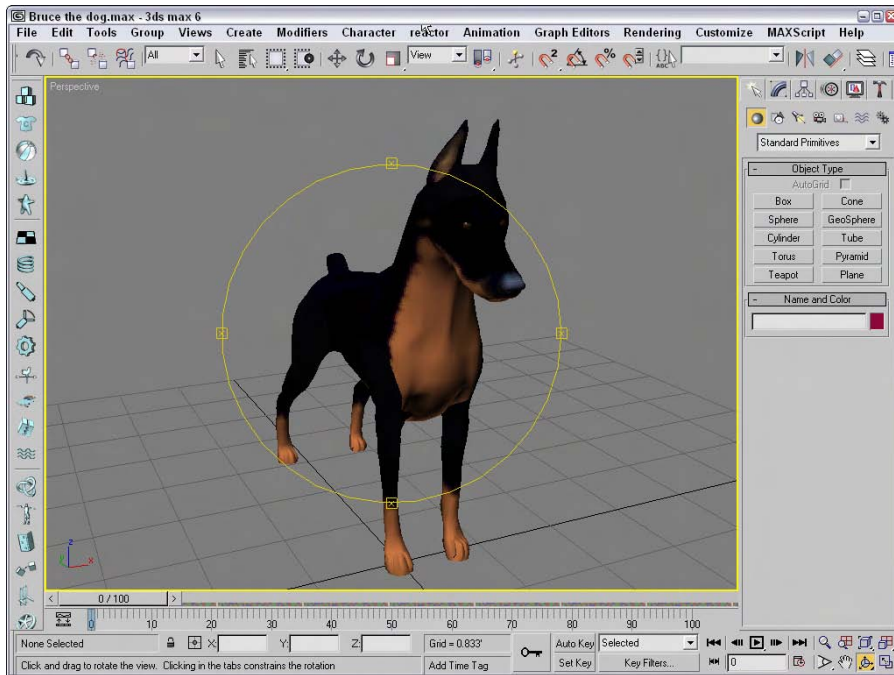

Figure 2-7: The Perspective viewport after a slight rotation shows Bruce's good side.
6. Click the Arc Rotate button (or press Ctrl+R), and drag from the left square on the rotation guide to the right. This rotates Bruce to make his front side more visible, as shown in Figure 2-7. Good boy, Bruce.